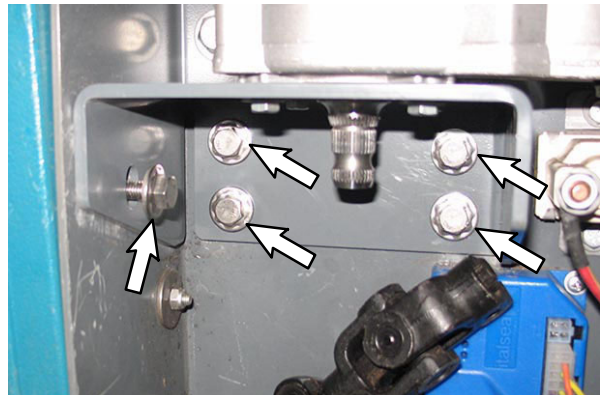

FIG. 10
3. Use five saved SEMS M8 hex screws to install the power steering motor assembly onto the steering support channel. Torque the SEMS M8 hex screws to 22 Nm (16 ft lbs). (Fig. 10)